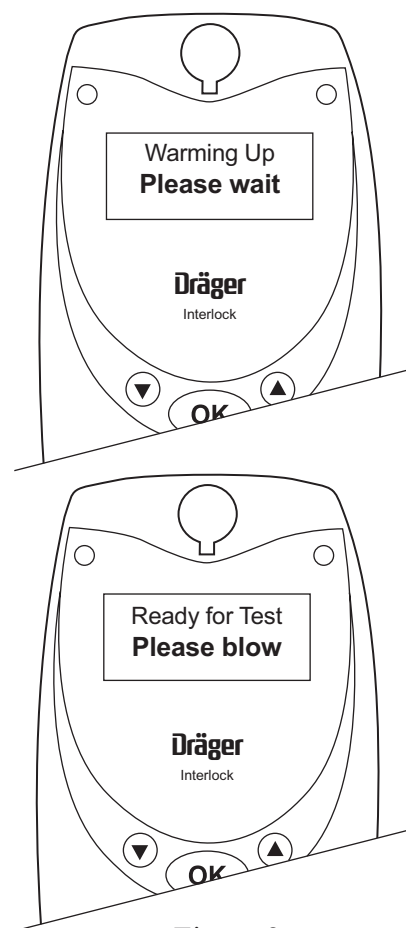

Figure 2
The Interlock will display **"Warming Up - PLEASE WAIT"** on the screen as shown in Figure 2.
- When the Interlock is ready for the BAC test, it will display **"Ready for Test - PLEASE BLOW"** on the screen as also shown in Figure 2 and the yellow light will flash.